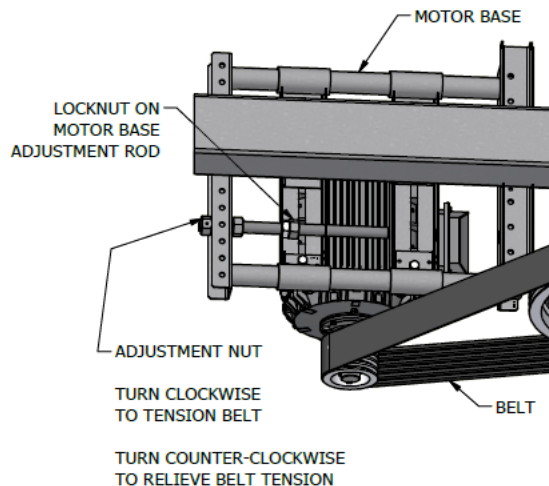

Figure 50: Belt tensioning
1. Tension the belt by turning the adjustment nut clockwise to move the motor base away from the fan shaft per **Figure 50**.
- b. Relieve tension in the belt. Refer to back to **Figure 50** for information on belt tensioning.